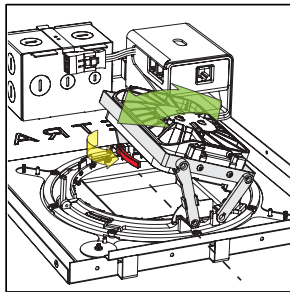

fig. 14
- b. Unlock the emitter chassis: reach into the D3's housing and unlock tilt lock and rotation lock levers (both colored red). (see fig. 14)